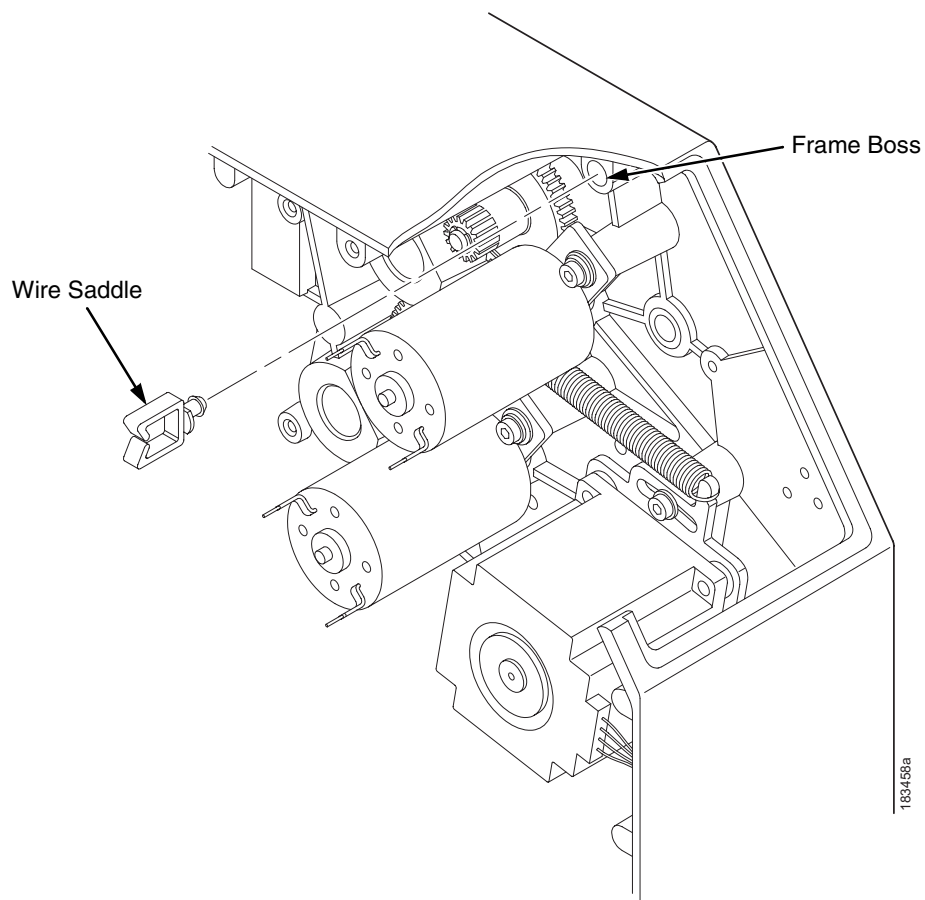

Figure 6. Inserting the Wire Saddle Into the Frame Boss
11. Insert the wire saddle into the frame boss. (Figure 6.)